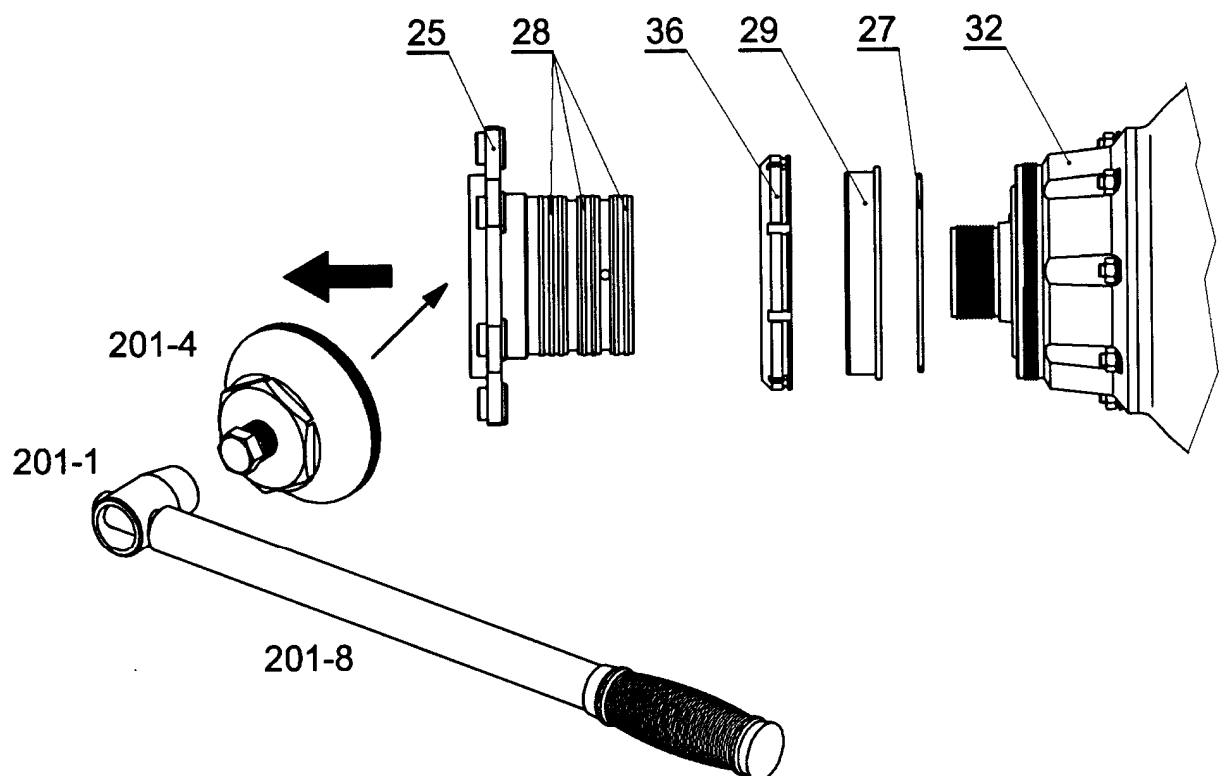

Fig.212 Rotor of P 7900.01 distributor removing
- (1) After propeller removing (see 2.A.) remove wire (38) and bushing (33). By using the wrench (201-3), adjustable mounting tube (201-9) and mounting bar (201-8) screw off to the left and screw out the nut (30) and take off the washer (39). When screwing off the nut (30) put on the flange of the rotor (25) wrench (201-2) with adjustable mounting tube (201-9), and mounting bar (201-8) and stop to the spinning of the crankshaft (204).
- (2) Remove wire (37) from the sliding nut (36), loosen nut by the wrench (201-7), screw off and slide direct to the rotor flange
- (3) Screw the remover (201-4) into the rotor flange (25) by the means of wrench (201-3).
- (4) Set the wrench (201-1) on the bolt of the remover with mounting bar (201-8), turning the remover bolt loose the flange (see Fig.212).
- (5) Pull the flange and remove rotor from the distributor .